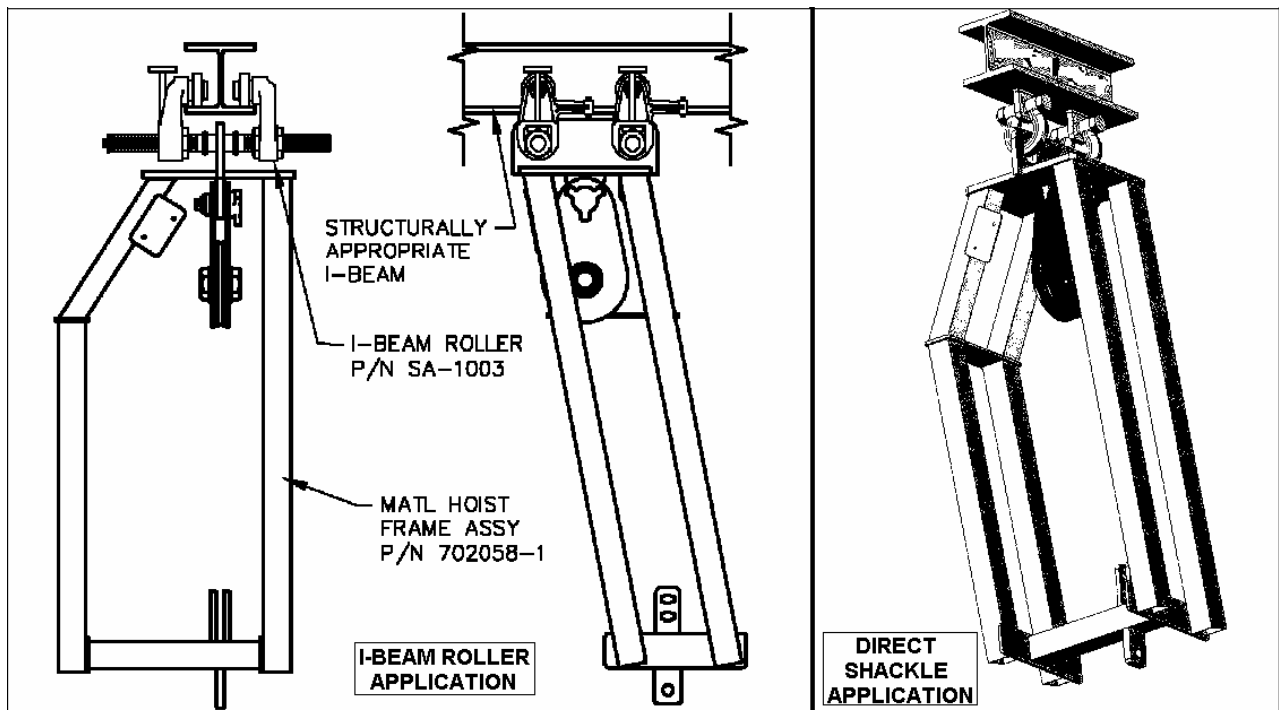

Figure 2.
- A commonly used rigging beam is the 5 x 5 outrigger beams (8-0217-5,-6, & -7). Alternate I-beams may be used; structural adequacy of I-beam size must be determined by a qualified person. The material hoist frame can be used directly with the I-beam roller (SA-1003 & SA-1003-22). Alternatively the frame can be connected with shackles (5/8";3-1/4 Ton Bolt Type) to an alternate support system capable of support 4 times the load being lifted. Refer to Figure 2 illustrating the typical rigging connections.